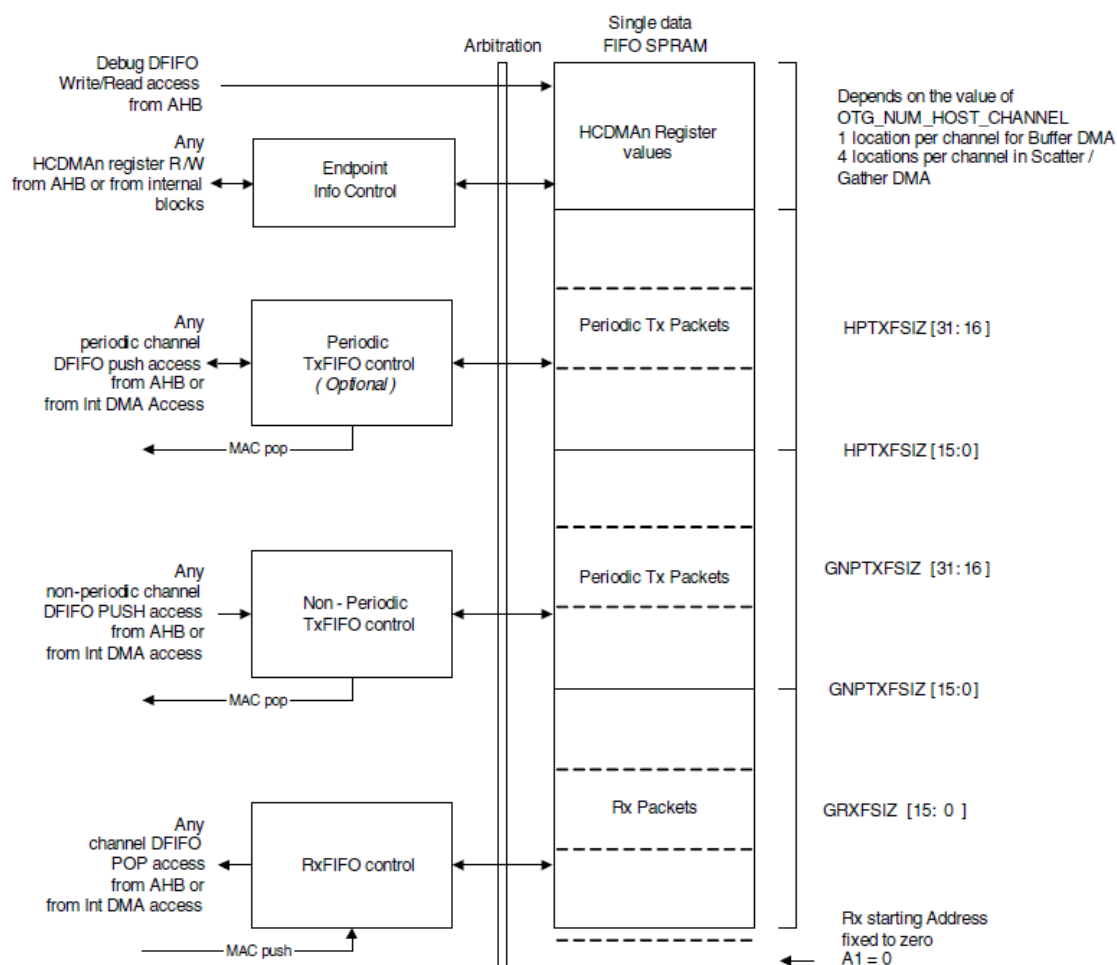

Fig. 26-6 USB OTG 2.0 Controller host mode FIFO address mapping
- Fig.26-6 shows FIFO mapping in Host mode.